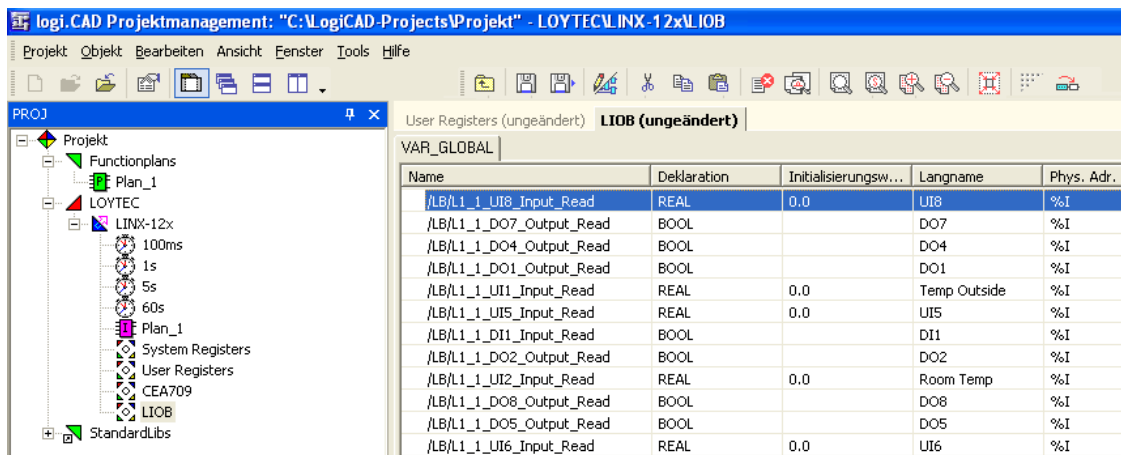

Figure 43: Exposed PLC data points appear in LogiCAD
- The data points now appear as variables in LogiCAD in a folder under the device folder. The folder is named specific to the technology of the data points, e.g. LIOB for all L-IOB I/Os that are exposed as a PLC variable. An example is shown in Figure 43.